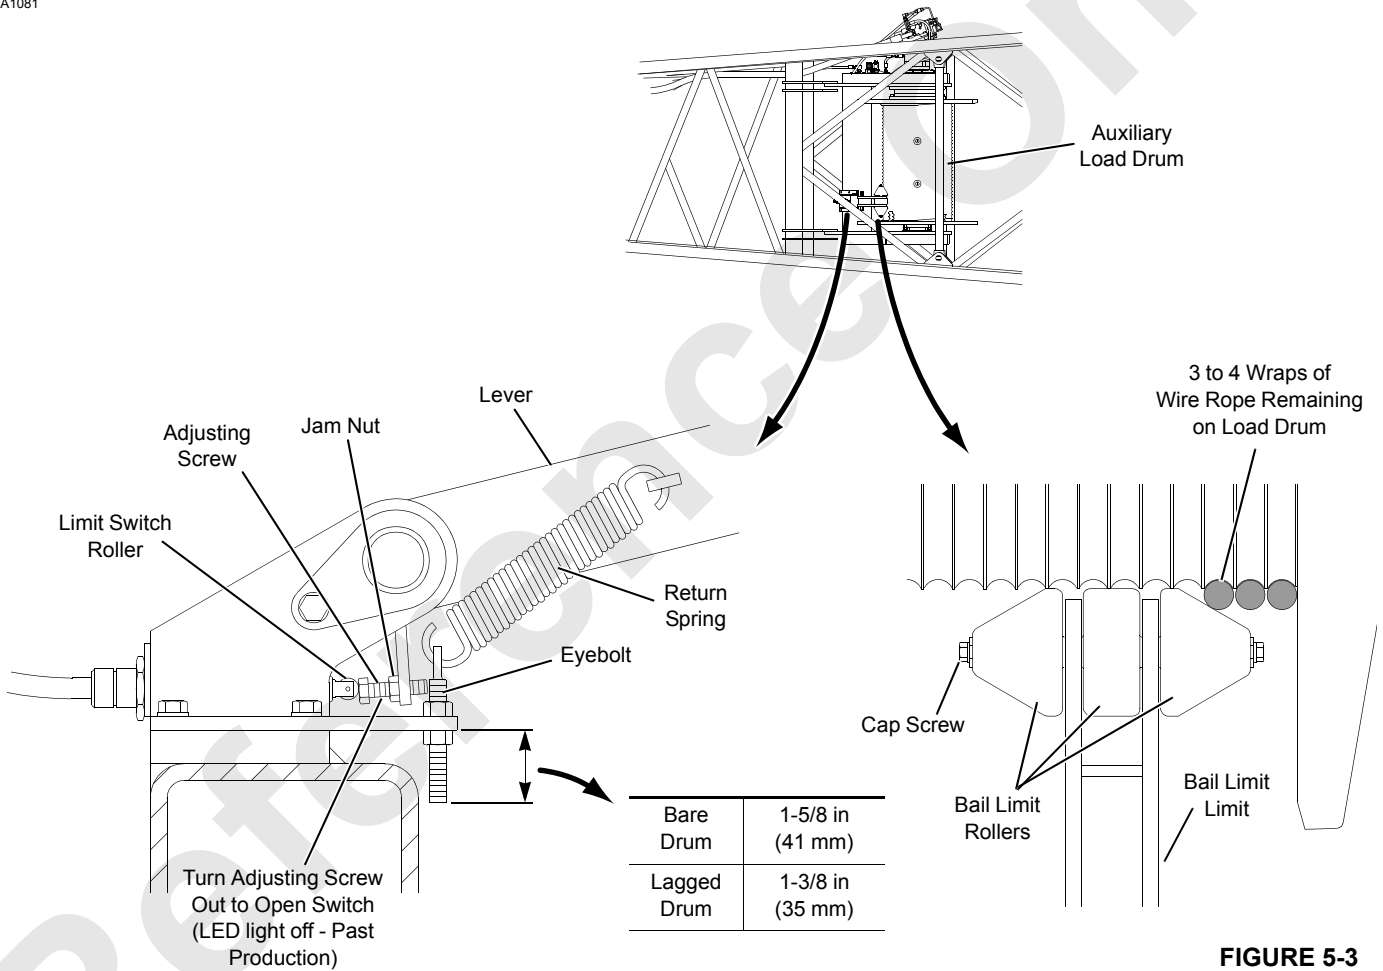

FIGURE 5-3
See Figure 5-3 for the following procedure.
6. Adjust return spring eyebolt to dimension shown in Figure 5-3.